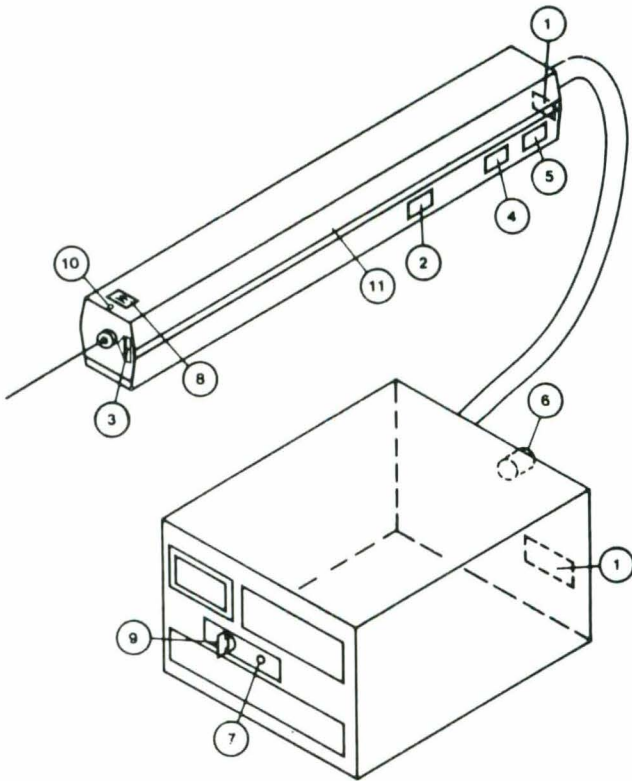

FIGURE 2.5: Model 168B Radiation Control Drawing
This laser product complies with Title 21 of the United States Code of Federal Regulations, Chapter 1, Subchapter J, Parts 1040.10 and 1040.11, as applicable. To maintain compliance with these regulations, once a year or whenever the product has been subjected to adverse environmental conditions (e.g., fire, flood, mechanical shock, spilled solvent) check to see that all features of the product listed on the radiation control drawing (Figure 2.5) function properly. Also insure that all required labels are firmly attached.
- 1 Verify that removal of the remote control (Interlock) plug (Figure 2.5 and 3.1) prevents operation of the laser.